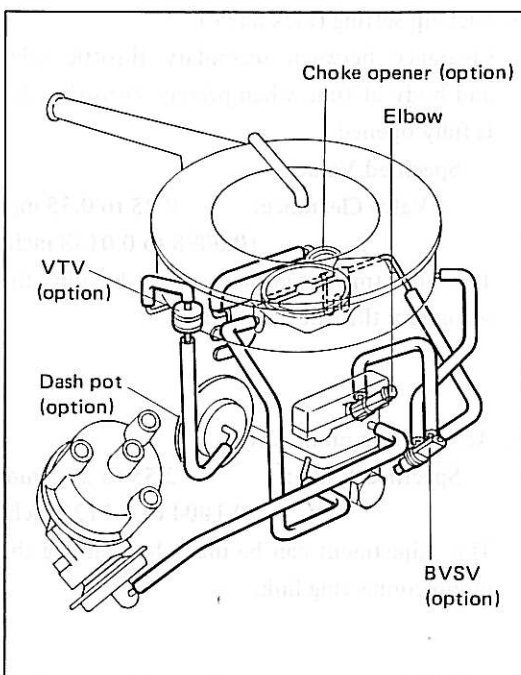

Fig. 4-59 Vacuum Hose Connecting Diagram
- (1) Each vacuum hose should be connected and routed correctly as shown in Fig. 4-59.
- (2) Each vacuum hose should be inserted at least 10mm (0.39 inch). Do not use any lubricant, when inserting vacuum hoses.